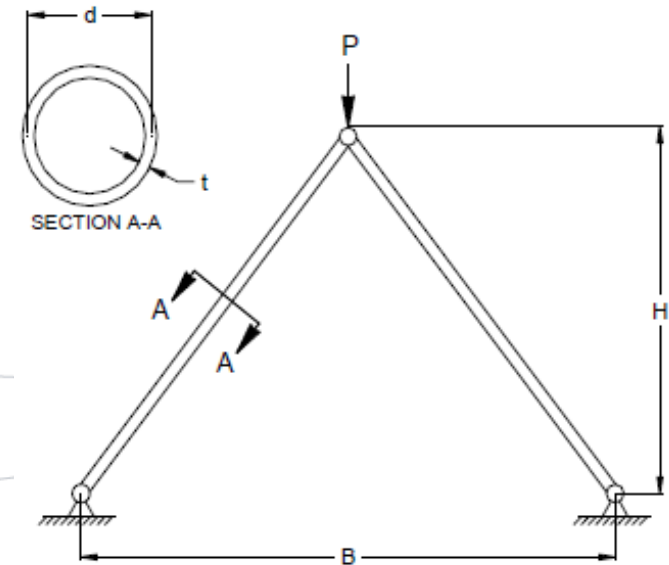

Figure 1.23 Layout for the Two-bar truss model.
- Consider the design of a simple tubular symmetric truss shown in Fig. 1.23 below (problem originally from Fox).
- A design of the truss is specified by a unique set of values for the analysis variables: height (H), diameter, (d), thickness (t), separation distance (B), modulus of elasticity (E), and material density (ρ).